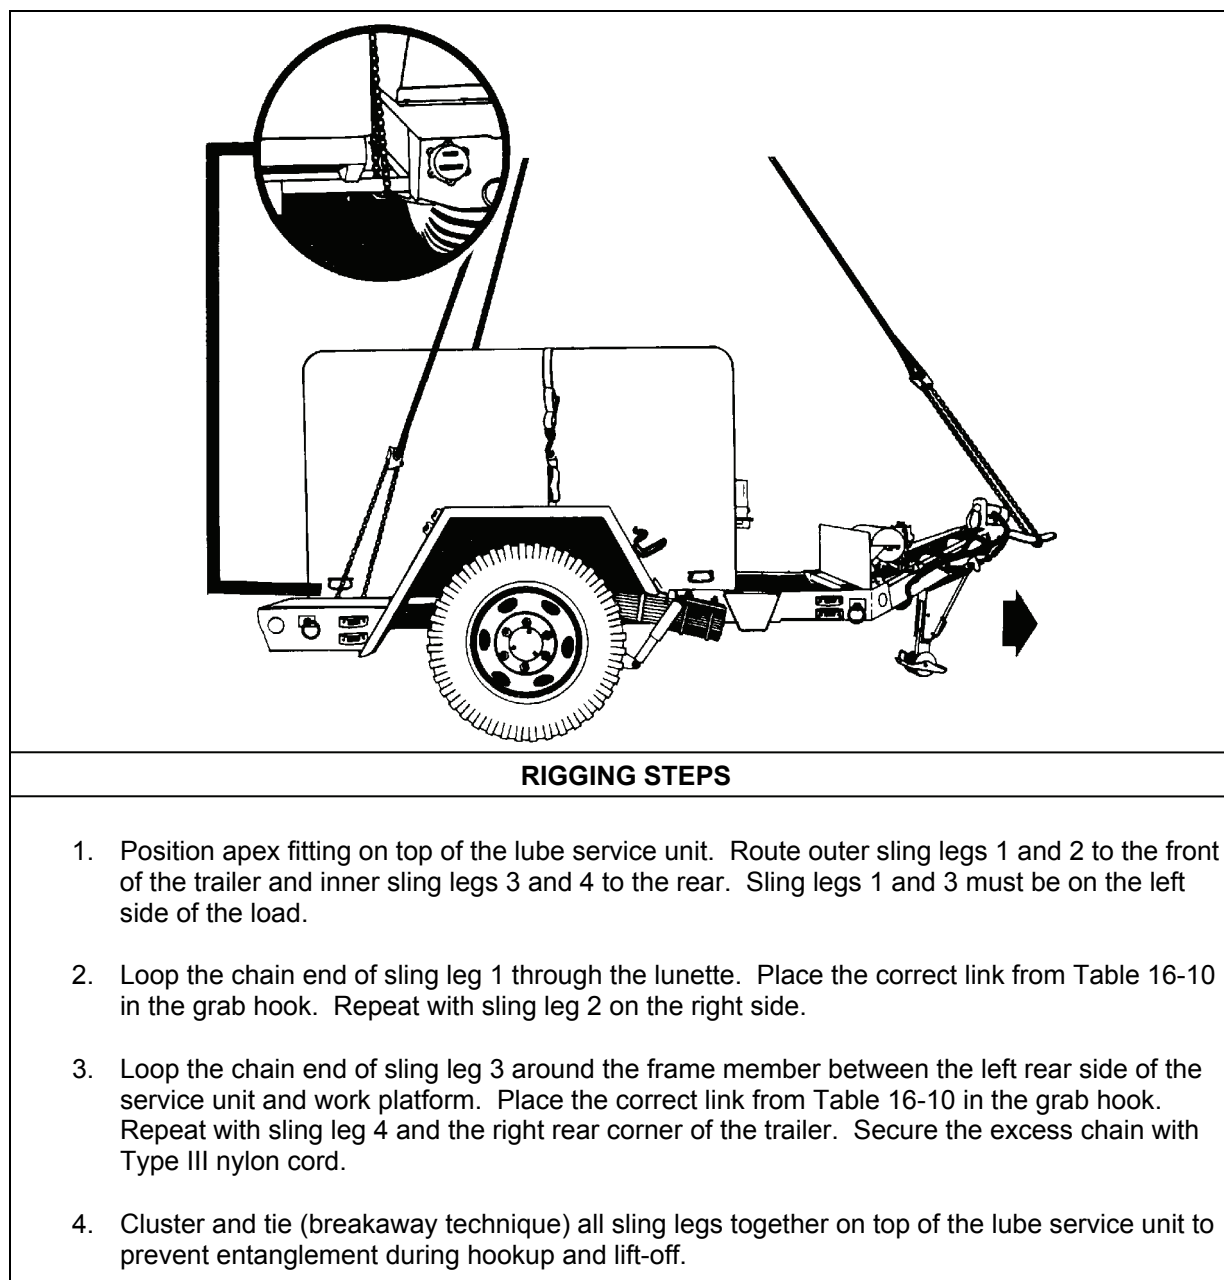

Figure 16-10. Trailer-Mounted, Lube, Service Unit
- **Rigging.** Rig the load according to the steps in Figure 16-10.